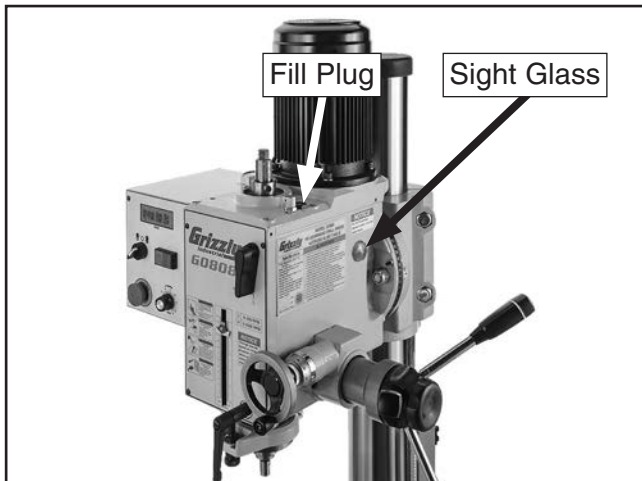

Figure 66. Location of headstock oil sight glass and fill plug.
The headstock has the proper amount of oil when the sight glass is halfway full (see **Figure 66**).
3. Remove motor cover and fill plug (see **Figure 66**).